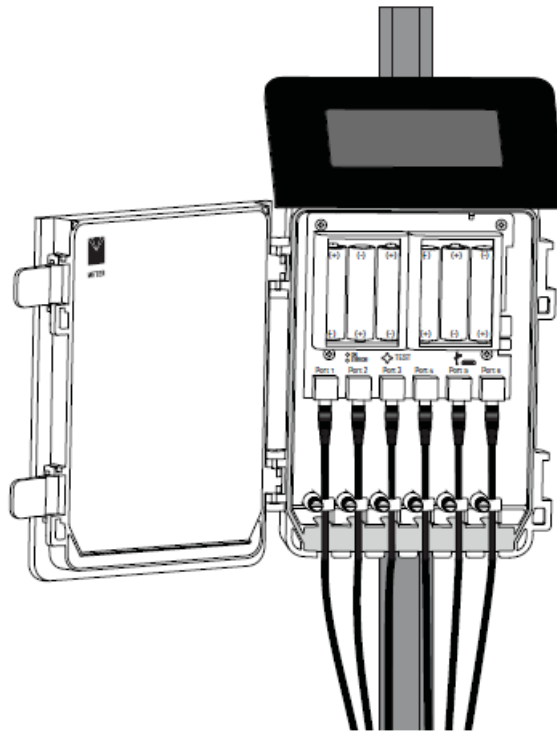

Figure 3 Logger connection
1. Plug the stereo plug connector into one of the sensor ports on the logger (Figure 3).